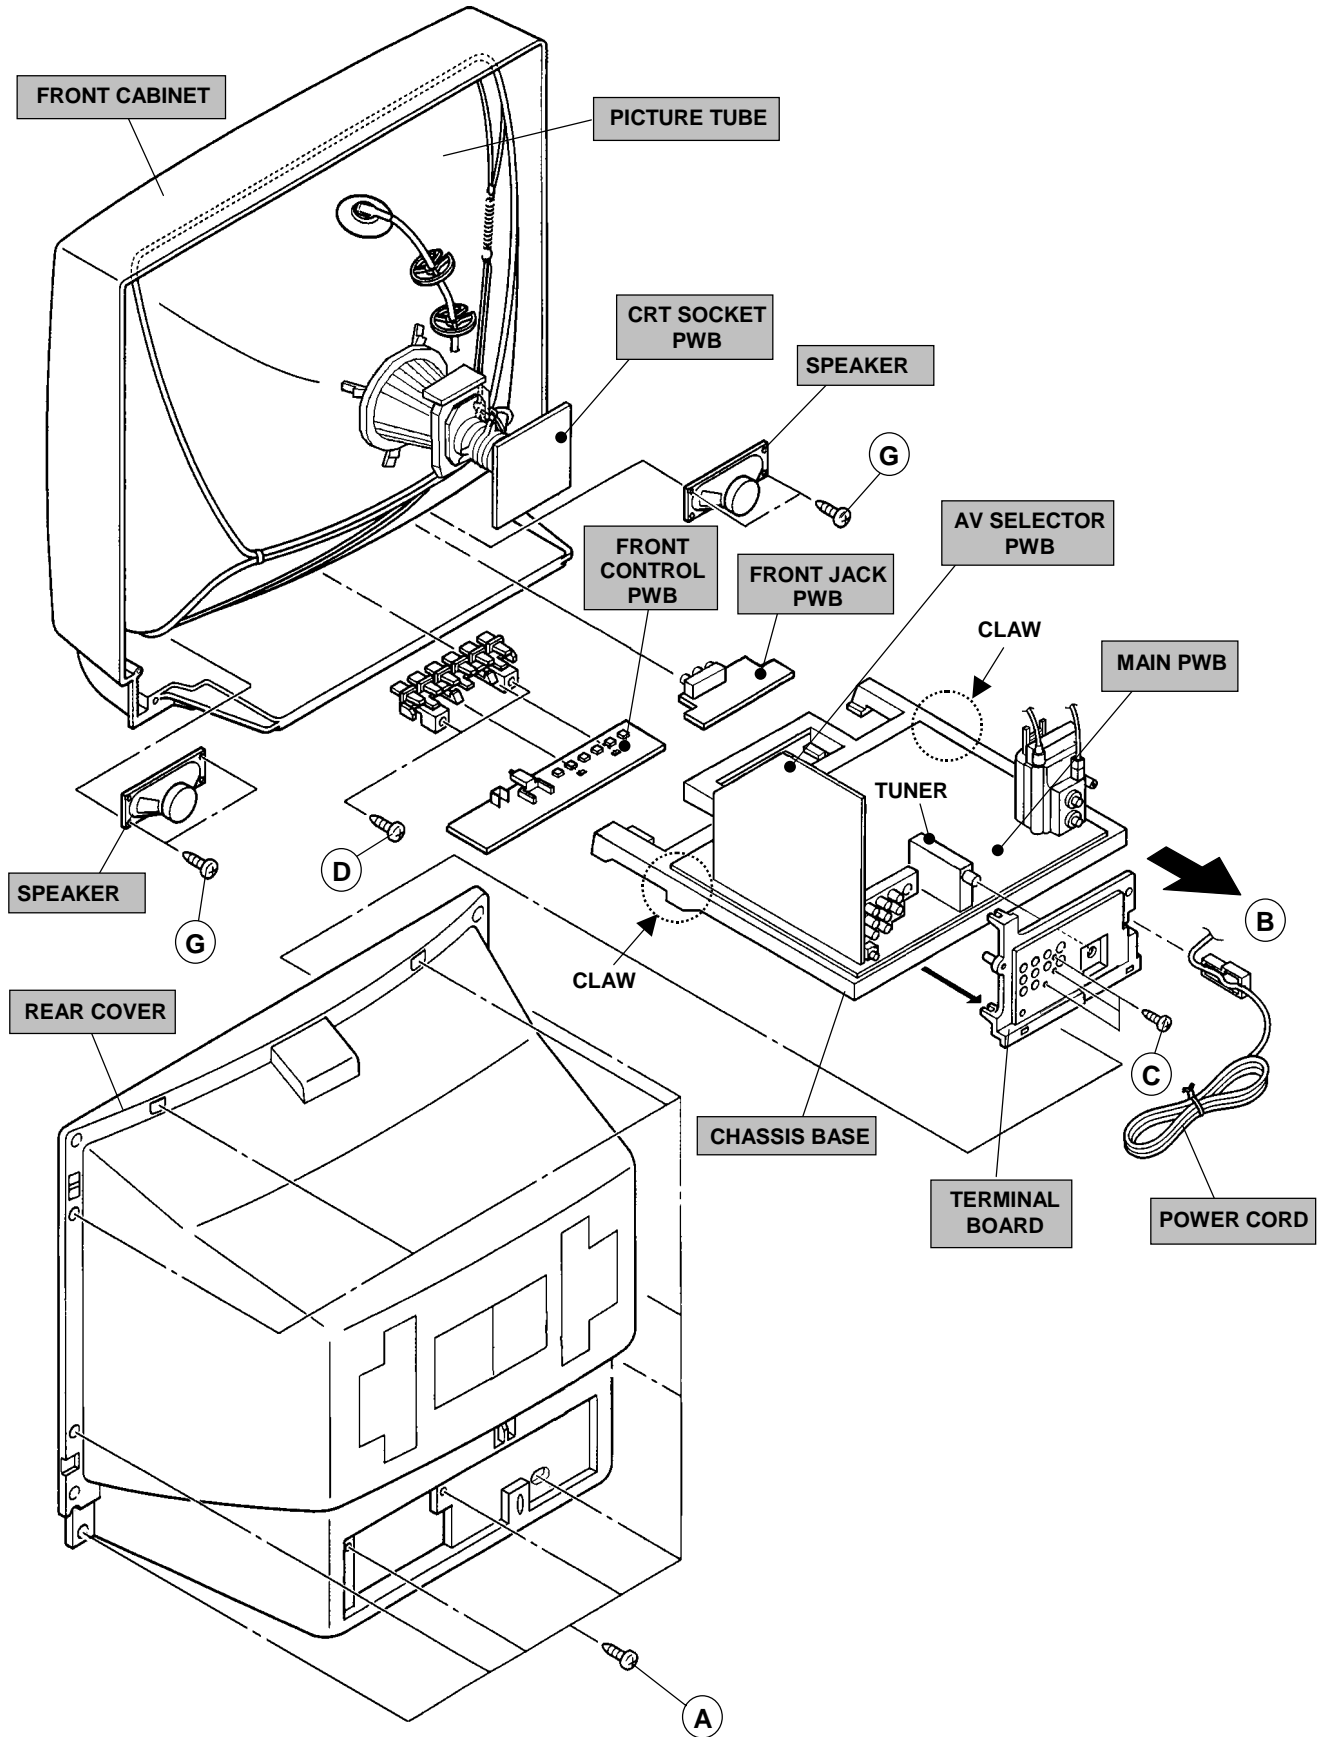

Fig.2
1. Remove the 11 screws marked (A) as shown in Fig.2.
2. Draw the chassis backward along the rail in the arrow direction marked (B) as shown in the Fig.2.
1. Remove the 3 screws marked (C) as shown in Fig.2.
1. Remove the 2 screws marked (D) as shown in Fig.2.
1. Remove the 2 screws marked (G) as shown in Fig.2.